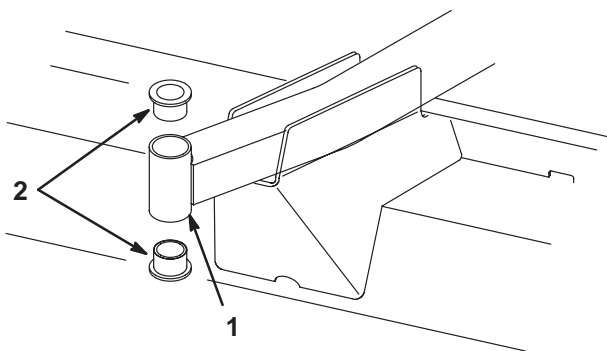

Figure 27
4. Insert a pin punch into the top or bottom of the mounting tube and drive the bushing out of the tube. Also drive the other bushing out of the tube (Fig. 27). Clean the inside of the tubes to remove dirt.